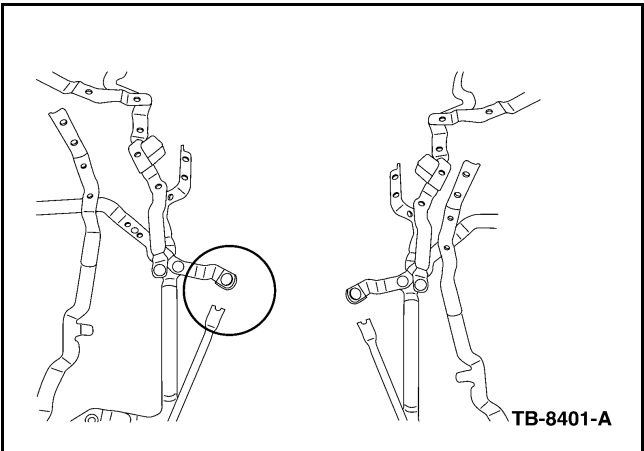

Figure 5 - Article 05-24-6
1. Side rail linkage broken. (Figures 5 and 6)